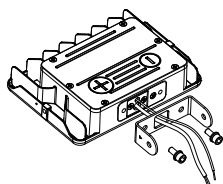

figure 2.1
Step 2: Pass the wires through hole of bracket; (figure 2.1)